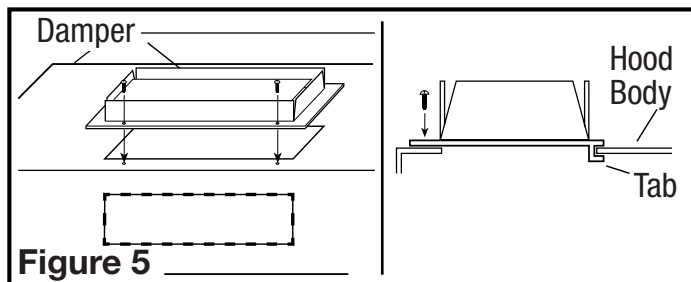

Figure 5
7. Install the damper assembly to the hood by sliding the tabbed section of the damper under the hood body and securing with the two provided screws. Using approved duct tape, tape around the collar to seal off any air leaks (**Figure 5**).